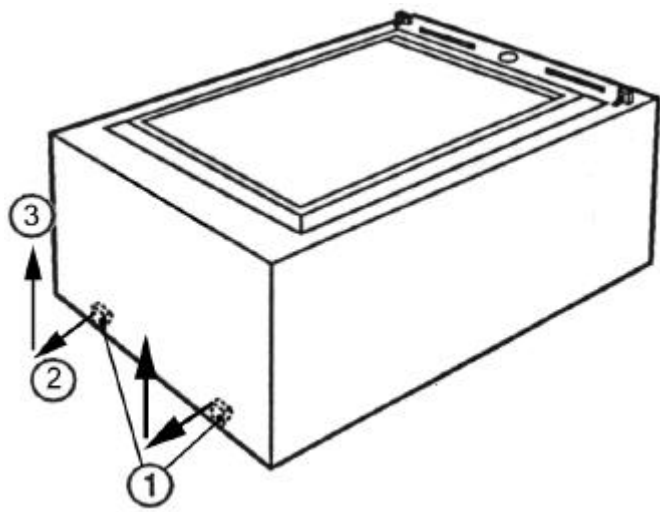

fig. 4.6
4) un-hook the two hooks in the front of the scanner (see ① in figure 4.6), applying sequentially the movements ② and ③. Lift the entire top plastic cover and remove it.